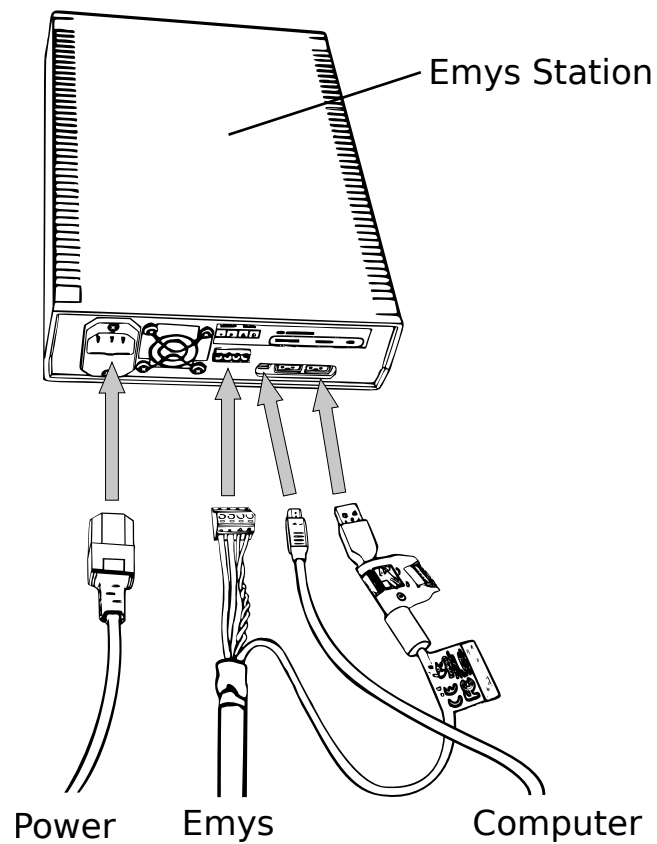

Figure 2.3: Connecting cables to Emys Station
2. Connect Emys servo network cable to Emys Station (Figure 2.3).
3. Connect Emys camera cable to Emys Station (Figure 2.3).
1. Connect Emys Station to a single phase 100 – 240 VAC (Figure 2.3).